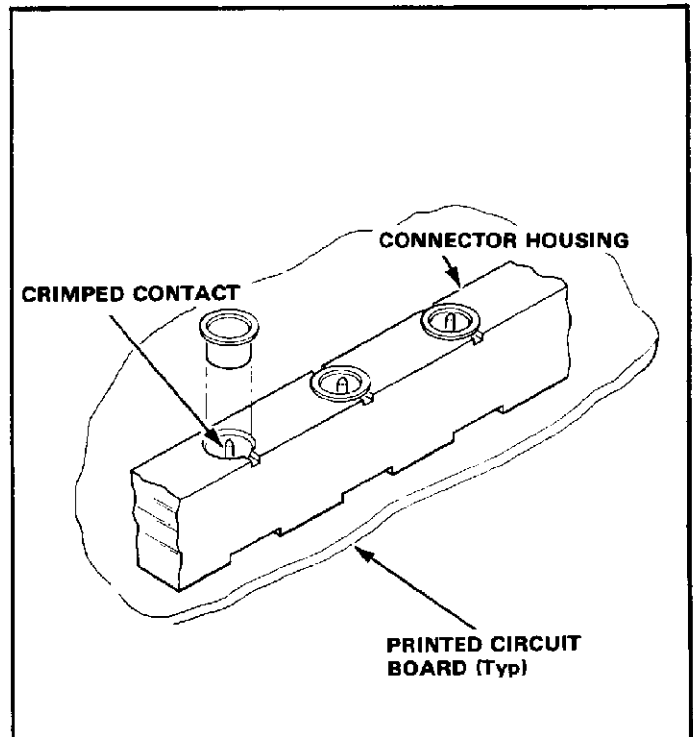

Fig. 2
3. INSTALLATION PROCEDURE (Figure 2)